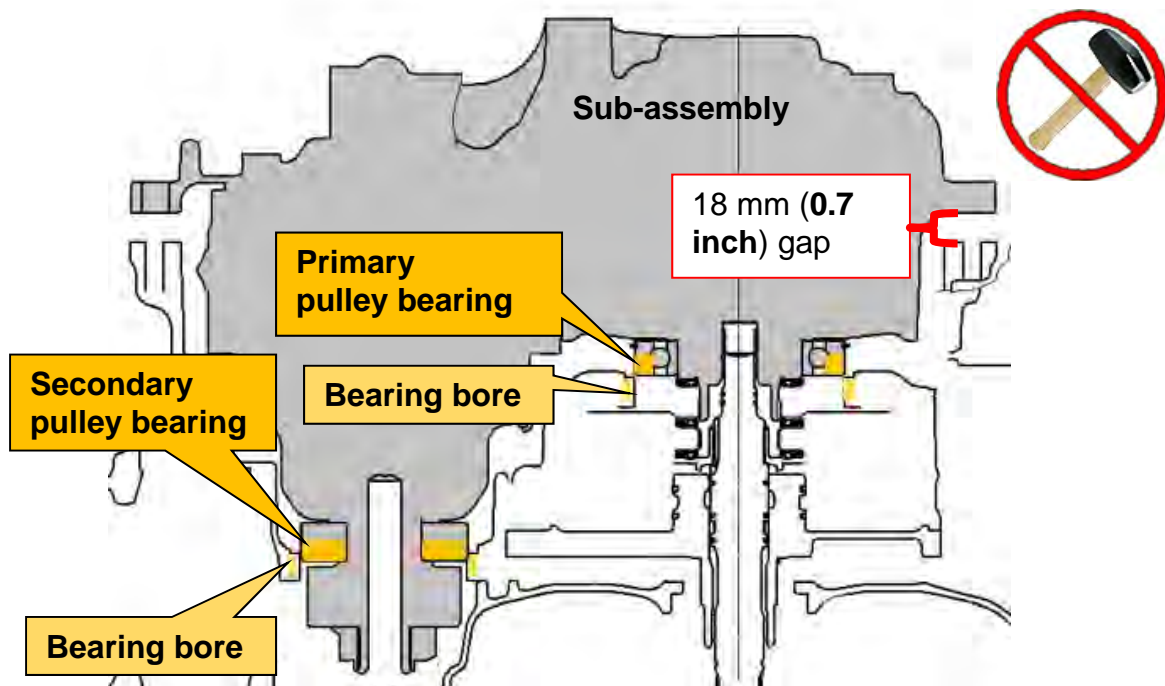

Figure 99
- If the primary and the secondary pulley bearings do not align properly with their bores (Figure 99) or are at an angle, a **gap of 18 mm (0.7 inch)** may be present.
- Possible areas of interference are highlighted with orange and tan in Figure 99.